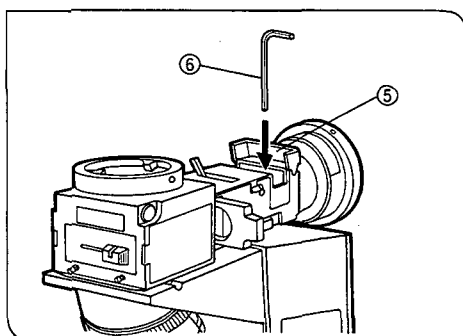

Fig. 2
1. Using the provided Allen wrench, loosen the observation tube clamping screw ① on the CH30 or CH40 microscope frame and remove the observation tube if mounted.
2. Insert the circular dovetail mount at the bottom of the vertical illuminator ② into the opening ③ on the microscope frame, positioning the vertical illuminator parallel to the microscope arm. Clamp the vertical illuminator by tightening the clamping screw ① with the Allen wrench.
3. Open the filter holder cover ⑤ and turn the screw inside the filter holder clockwise using the Allen wrench ⑥ until the screw lightly contacts the upper surface of the microscope arm. (Fig. 2)